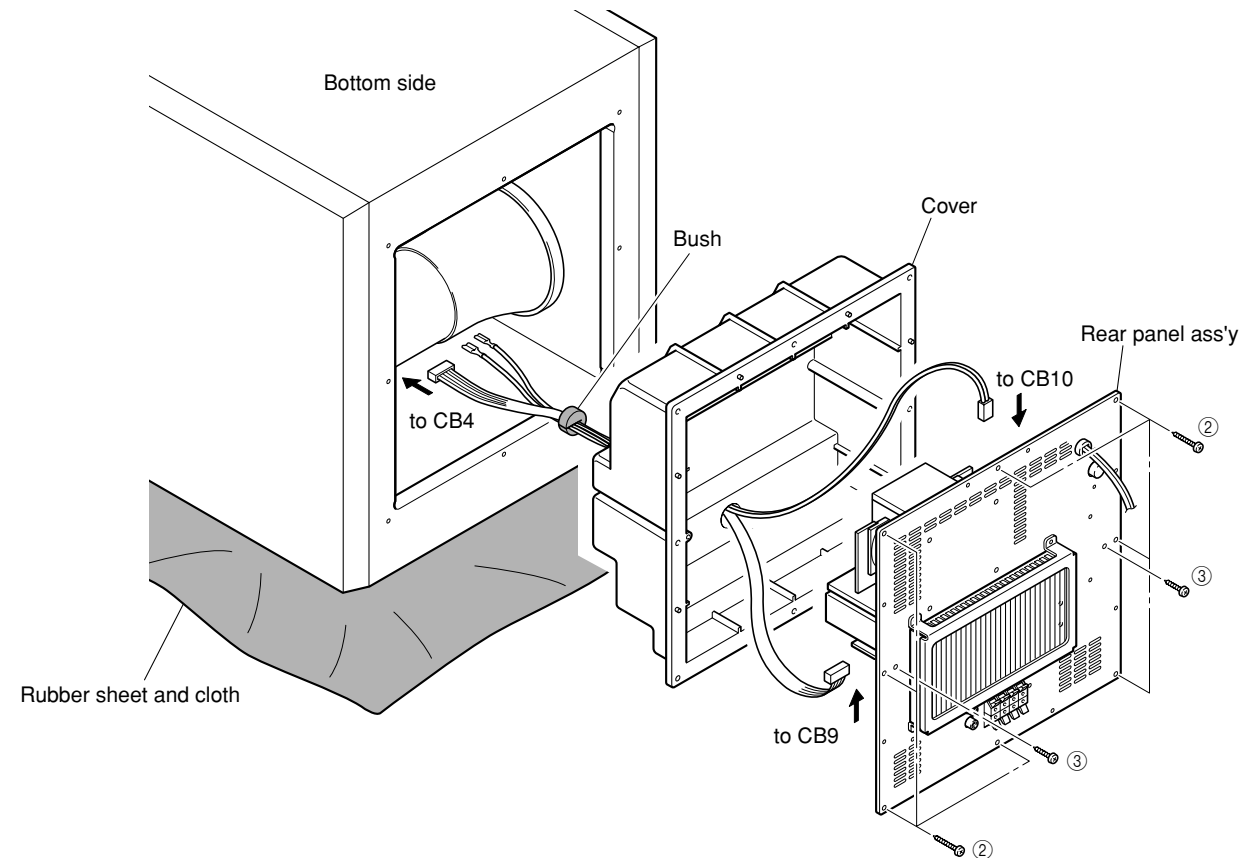

Fig. 2
- Remove 8 screws (②). (Fig. 2)
* Screws (②) are identified with arrow marks (↖).
- Pull out the rear panel ass'y together with the cover. (Fig. 2)
- Remove bush. (Fig. 2)
- Remove 2 screws (③). (Fig. 2)
* Screws (③) are identified with arrow marks (↗).
- Remove the cover. (Fig. 2)
- Disconnect the connectors (CB9 and CB10). (Fig. 2)
- 2) In order to shorten the time required for operation check; connect a 10 k-ohms resistor at both ends of R45 on the MAIN (2) P.C.B.. (Fig. 2)